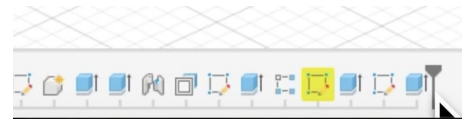

Figure 1.3
- For example, if the reset button hole is deleted or moved, any projections or extrusions based on it will show a warning. If you go to your timeline, you'll see a yellow icon (see Figure 1.3).